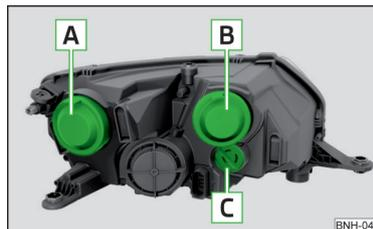

Fig. 153
Bulb arrangement » Fig. 153
- Remove the protective cap **A** » Fig. 153 on page 172.
- Fit the protective cap **A** » Fig. 153 on page 172.
- Remove the protective cap **B** » Fig. 153 on page 172.
- Fit protective cap **B** » Fig. 153 on page 172 Insert.